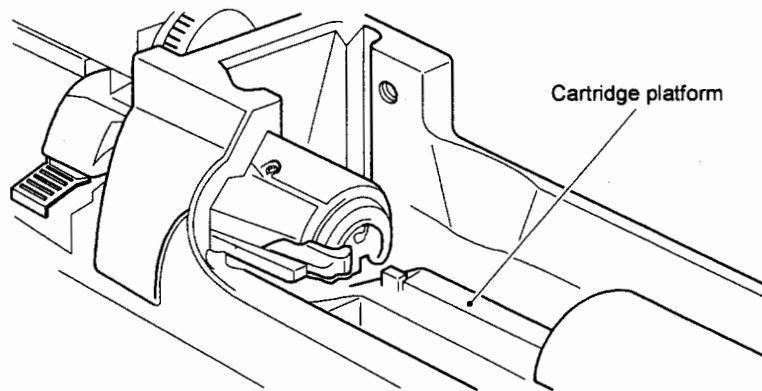

Fig 2 Cartridge platform
- 12.3 Place a cartridge in the groove of the cartridge platform (Fig 2), then press the round forward with the thumb or finger until the bullet has entered the chamber and resistance is felt.